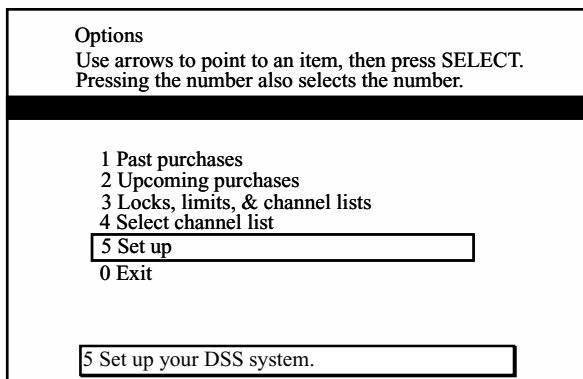

FIGURE 6-13 The options menu in the setup mode.
- Next, select “Setup” from the “Options” menu (Fig. 6-13).